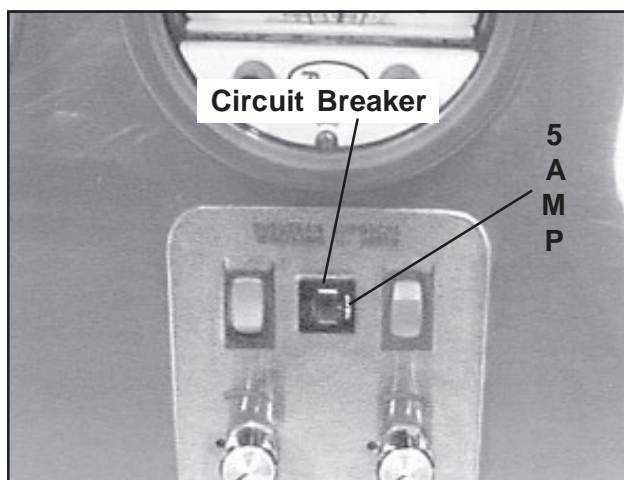

Figure 68. Circuit Breaker (front view)
1. Make sure the circuit breaker is right-side up - the words “**5AMP**” on the front should be readable (Figure 68). Insert the breaker into the opening in the front panel until it snaps into place.